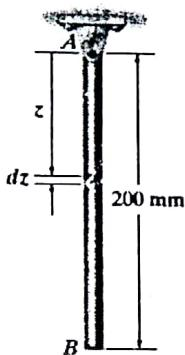

Fig. 1
1. The slender rod shown in Fig. 1 is subjected to an increase of temperature along its axis, which creates a normal strain in the rod of  $\epsilon_z = 40(10^{-3})z^{1/2}$ , where  $z$  is measured in meters. Determine (a) the displacement of the end B of the rod due to the temperature increase, and (b) the average normal strain in the rod. [ $\delta_B = 2.39\downarrow$ ,  $\epsilon_{avg} = 0.0119\text{mm/mm}$ ]